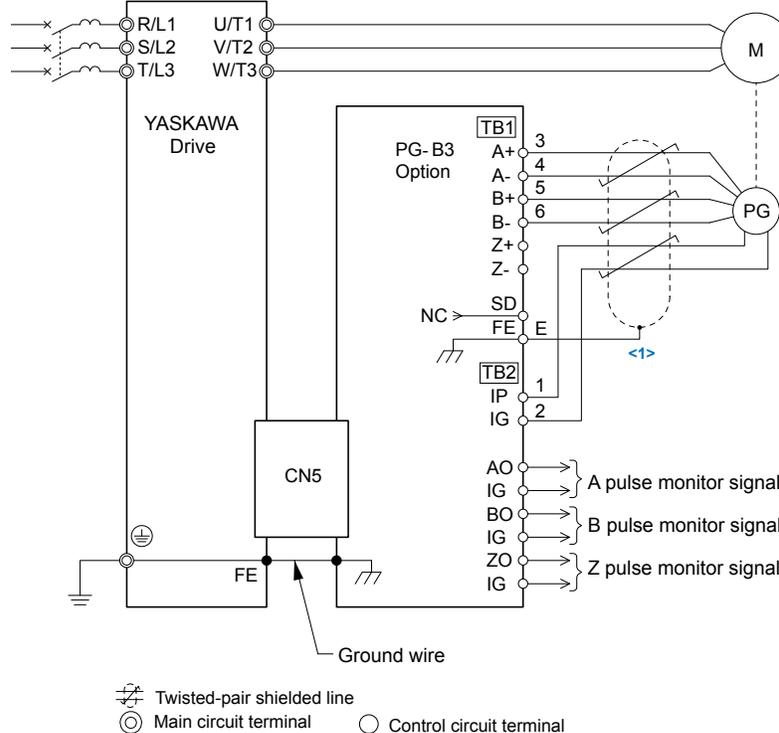

Figure 8.9 PG-B3 Option and Encoder Connection Diagram
5. Wire the motor PG encoder to the terminal block on the option. Refer to Figure 8.9 and Figure 8.13 for wiring instructions.